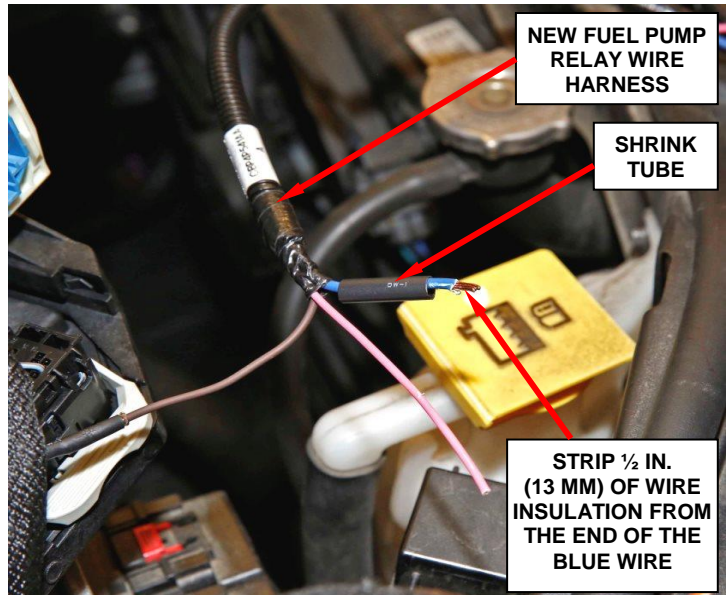

Figure 14 – Strip Wire and Install Shrink Tube
a. Strip approximately ½ inch (13 mm) of insulation from the end of the blue wire on the new fuel pump relay wire and the original blue (with an orange trace) wire (Figure 14).
b. Place the black shrink tube provided in the repair kit over the cut wire (Figure 14).